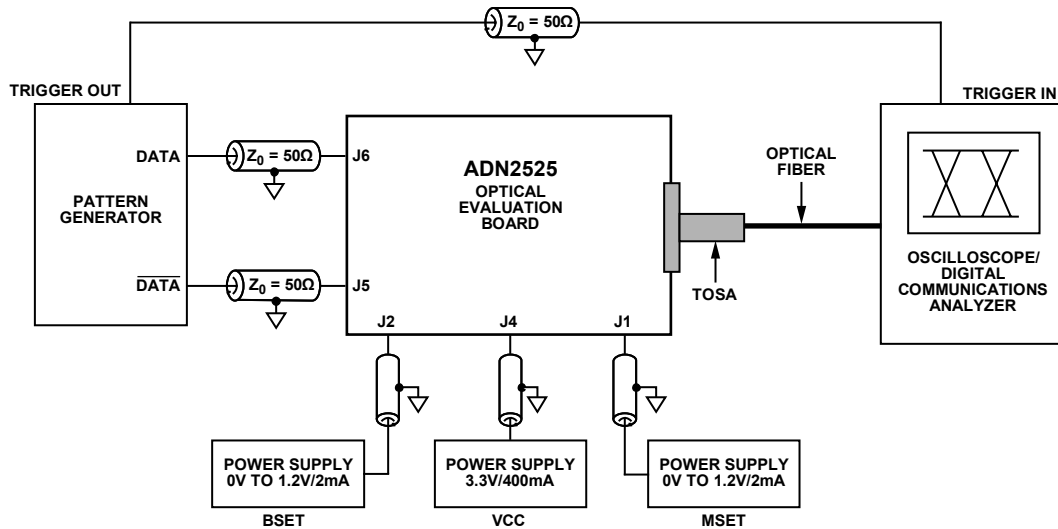

Figure 1. ADN2525 Optical Evaluation Board Test Setup
To evaluate the performance of the ADN2525, the board must be connected to the test setup as shown in Figure 1. A fiber patch cord with an appropriate connector for the TOSA end is required to connect the TOSA to the oscilloscope.
3. Connect the evaluation board to an oscilloscope, pattern generator, and power supplies as shown in Figure 1. A suitable pattern generator is the Anritsu MP1763B and a suitable oscilloscope is the Agilent 86100B with 86105C optical plug-in. Use coaxial cables for DATAP and DATAN of the type recommended in the General Description section.